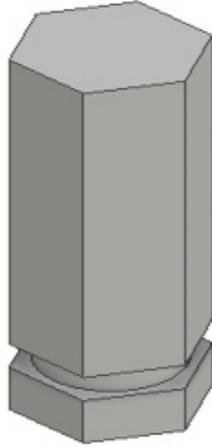

Figure 17-38 The iFeature applied to the model
18. Choose the **Finish** button; the iFeature is applied to the model, refer to Figure 17-38. You will notice that the **iFeature** node is created in the **Browser Bar**.